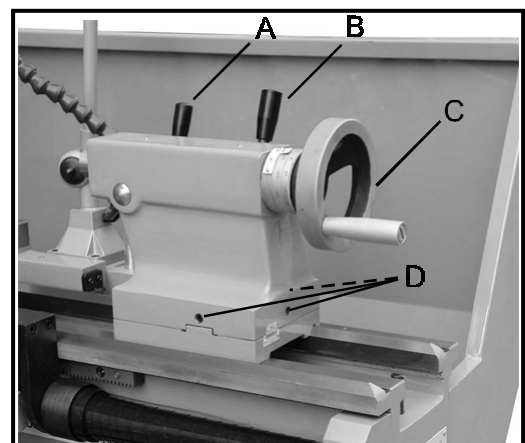

Fig. 17
17. **Tailstock Quill Clamping Lever (A, Fig. 17)** – located on the tailstock. Lift up to lock the spindle. Push down to unlock.
18. **Tailstock Clamping Lever (B, Fig. 17)** – located on the tailstock. Lift up lever to lock. Push down lever to unlock.
19. **Tailstock Quill Traverse Handwheel (C, Fig. 17)** – located on the tailstock. Rotate clockwise to advance the quill. Rotate counter-clockwise to retract the quill.
20. **Tailstock Off-Set Adjustment (D, Fig. 17)** – three set screws located on the tailstock base are used to off-set the tailstock for cutting tapers. Loosen lock screw on tailstock end. Adjust side screws until amount of offset is indicated on scale. Tighten lock screw.